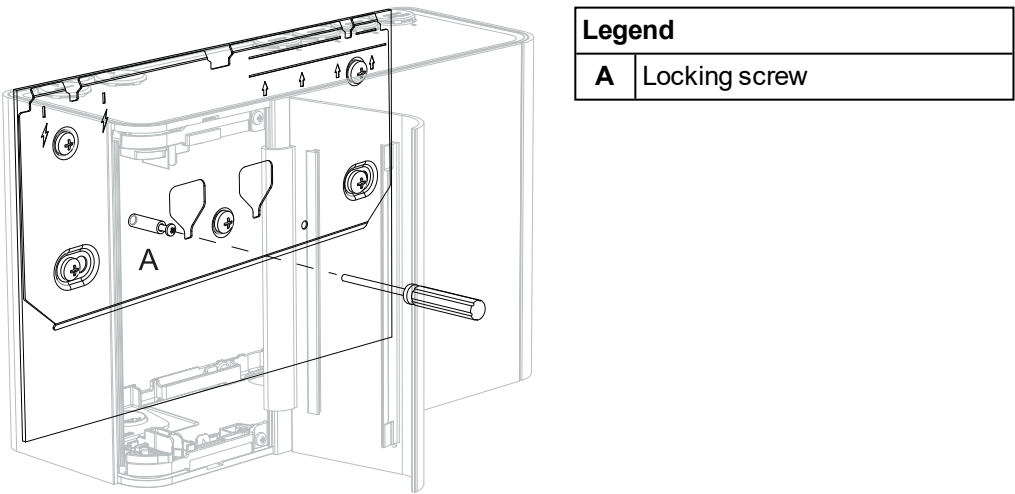

Figure 4-22: Locking Screw
7. Open the door on the front of the detector (Figure 4-22). Refer to Section 7.2 on page 82 for further information on how to open the door.
8. Insert and tighten the locking screw (A). This secures the detector to the mounting bracket.